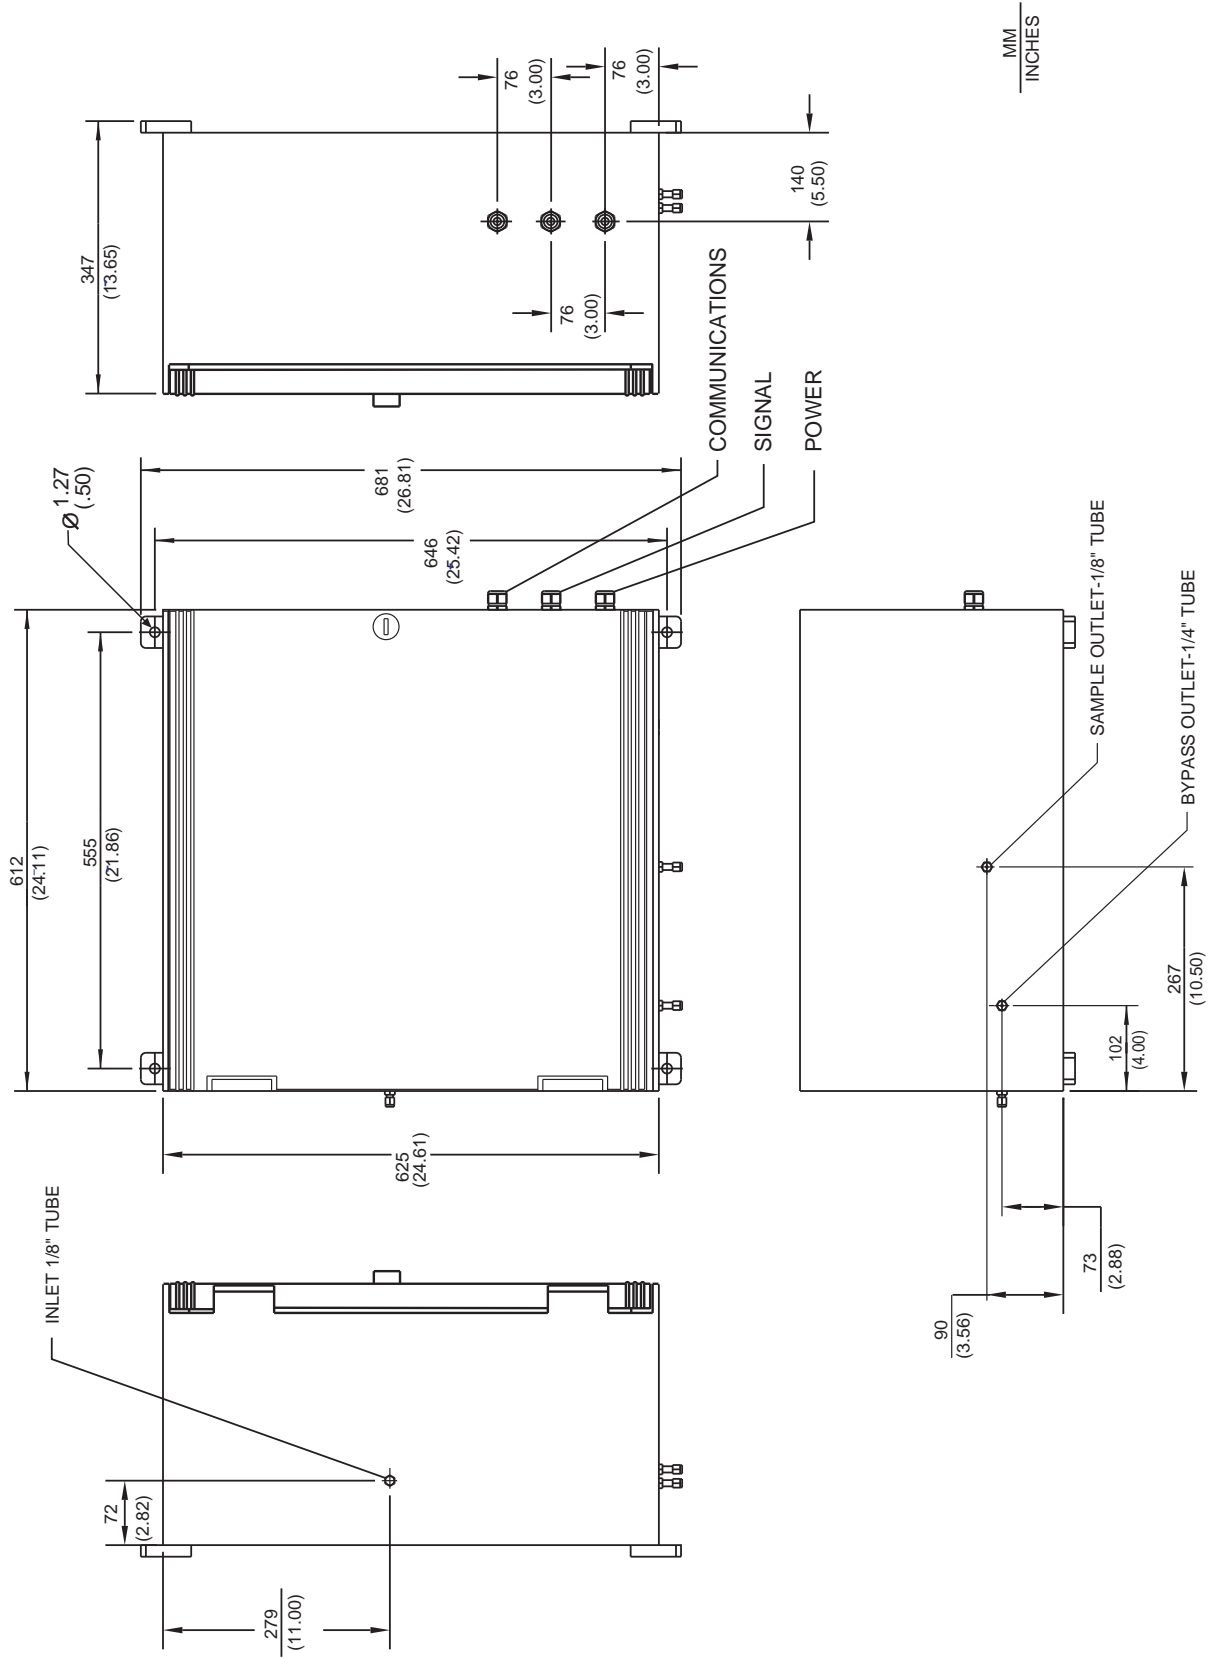

Figure 3: NEMA Enclosure
Nema-4x enclosure - approximately 64 x 35 x 67 cm plus clearance for analyzer connections. Refer to Figure 3.
2. Mount system in selected location and bolt in place. Refer to figure 3.